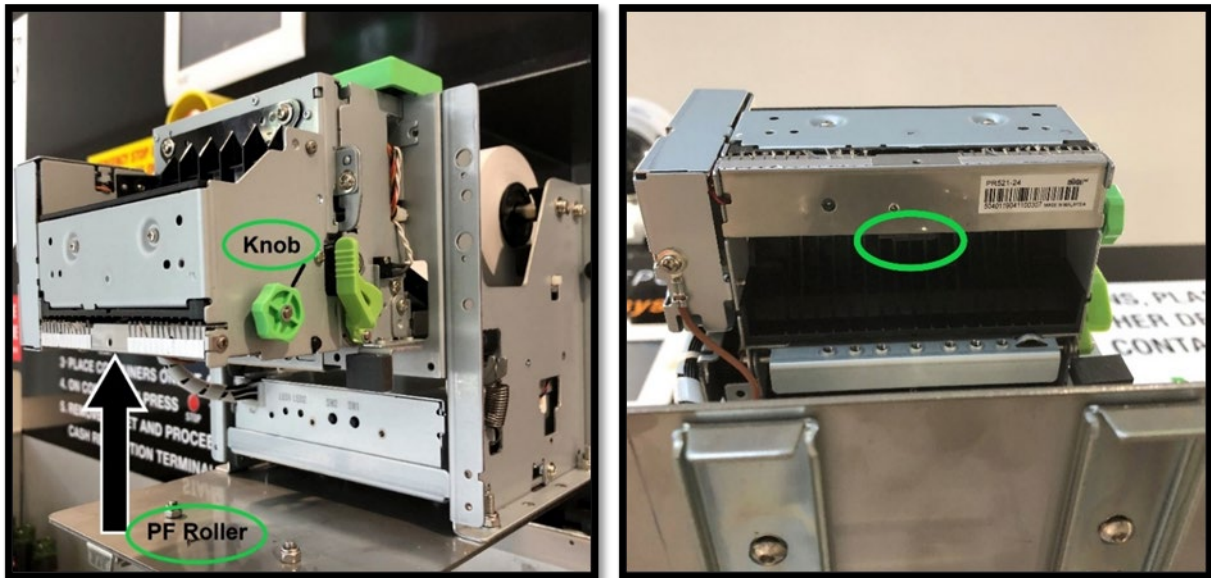

Figure 72. Printer Roller Cleaning
- Locate the small PF roller under the printer head as seen on Figure 72